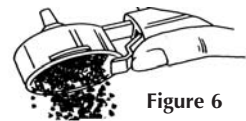

Figure 6
11. Flip the Basket Holder Clip up and over the rim of the Filter Basket to hold it in place with your thumb; knock out the used coffee or E.S.E. pod into a waste receptacle (see Figure 6).